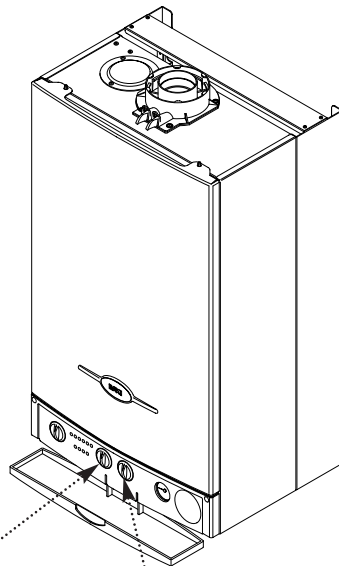

Fig. 7 Central Heating Temperature Control
2. Turn the control knob clockwise to increase the temperature (Fig. 7). In normal winter usage we recommend that the central heating temperature be set at maximum.